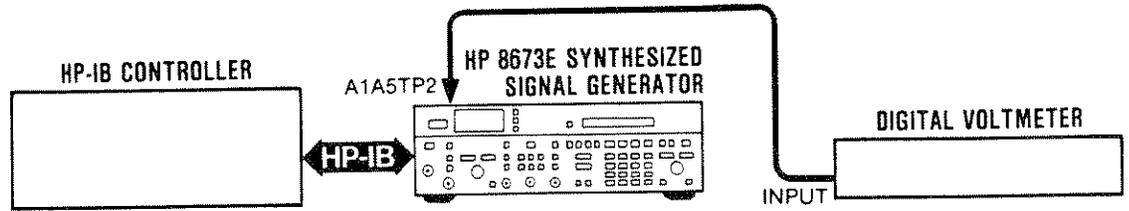

Figure 5-31. PAC DAC Adjustment Test Setup
2. Connect the equipment as shown in Figure 5-31.